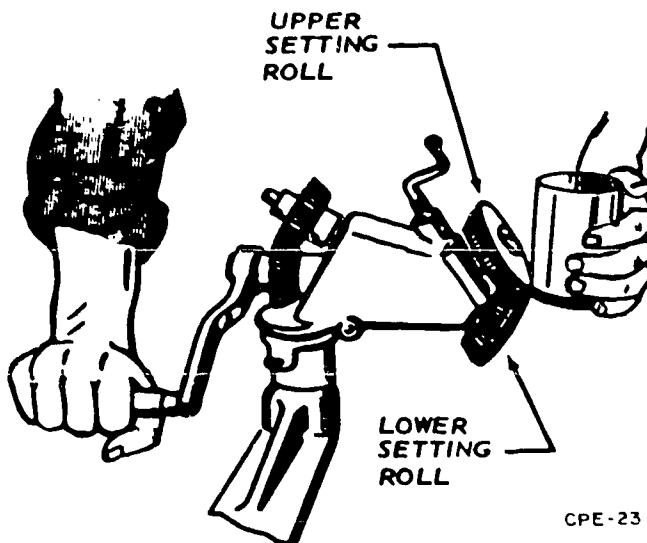

Figure 3-10. Setting down machine.
*Setting down machine.* The setting down machine, shown in figure 3-10, is used for tightening or setting down the edges prior to double seaming. Two styles of setting down machines are available—one has the upper roll perpendicular to the lower roll, and the other has both rolls sloping toward the machine.